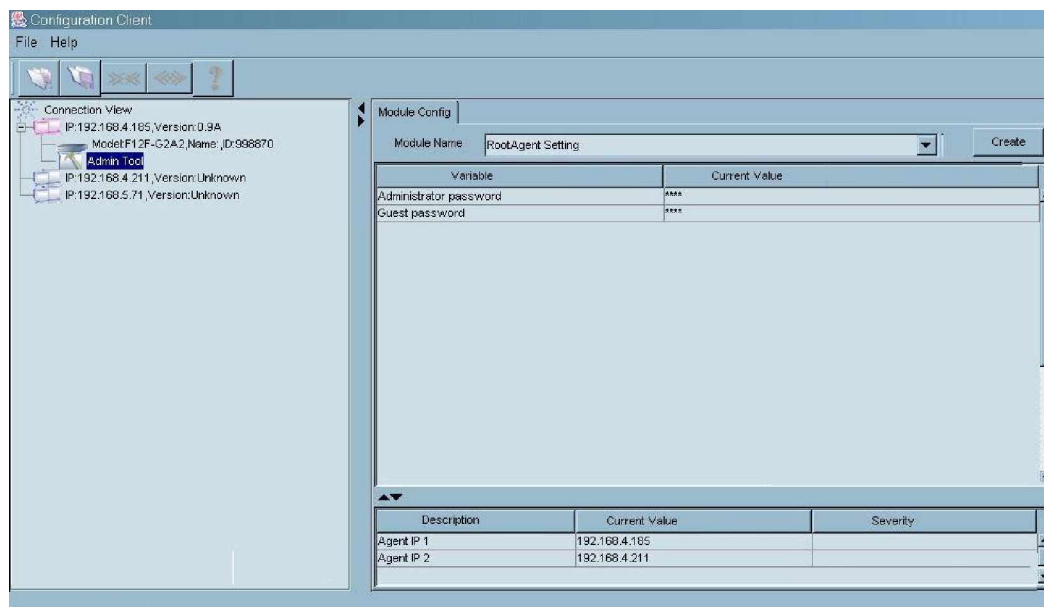

Figure 3-2: Configuration Client Window
Step 1. Click on the **“Configuration Client”** shortcut to activate the GUI as shown in *Figure 3-2*. Users can configure the following items: